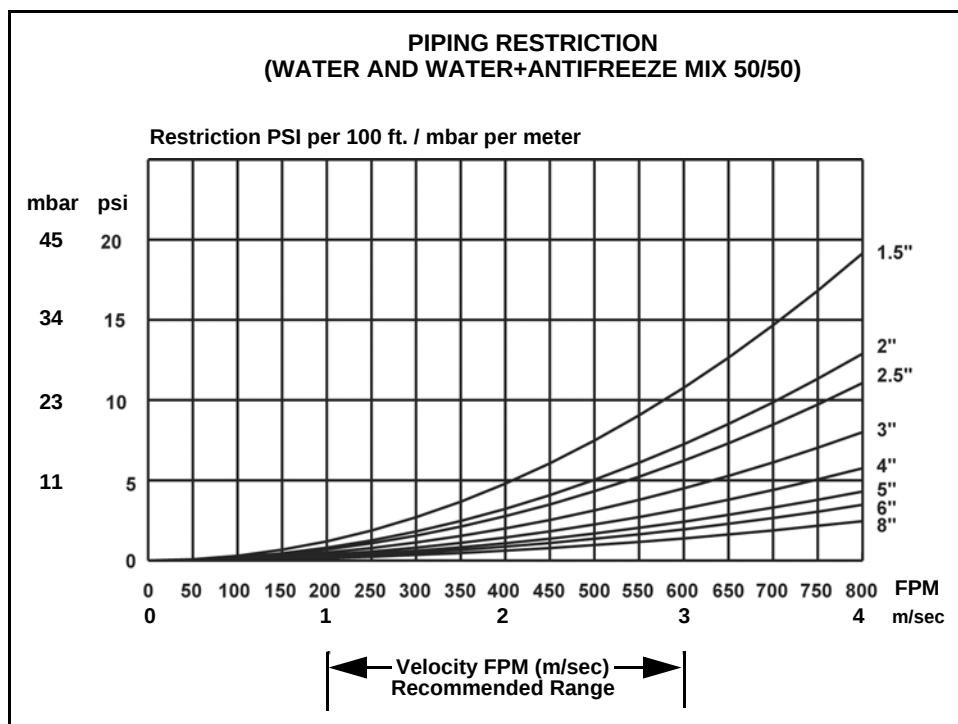

Figure 4-10 Piping Restriction Chart
- Determine pressure loss (P_L) per 100 ft. or meter of pipe for the velocity and pipe size from Figure 4-10.
(See Figure 4-10 on page 4-10.)